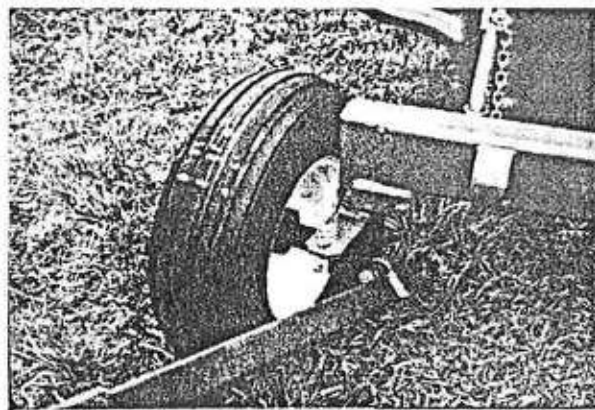

FIGURE 5
2. Using the drawbar, turn each wheel 90 degrees to the OPERATING position. The flange on each spindle will automatically move into position to be locked into place by replacing the nuts and tightening them securely. Figure 5